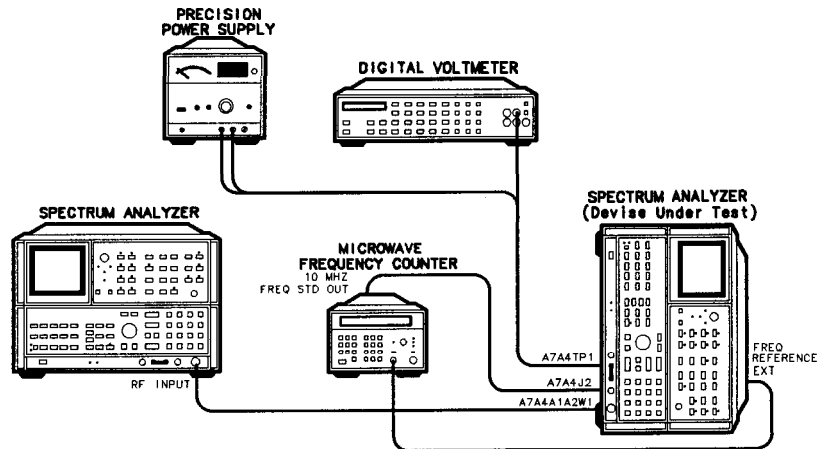

Figure 3-67. M/N Loop Adjustment Setup
1. Position the spectrum analyzer on its right side as shown in Figure 3-67. Remove the bottom cover of the RF Section.
2. Connect the frequency counter's rear-panel 10 MHz FREQ STD OUT connector to the RF Section's rear-panel FREQ REFERENCE EXT connector. See Figure 3-67. Set the RF Section's rear-panel switch to EXT.